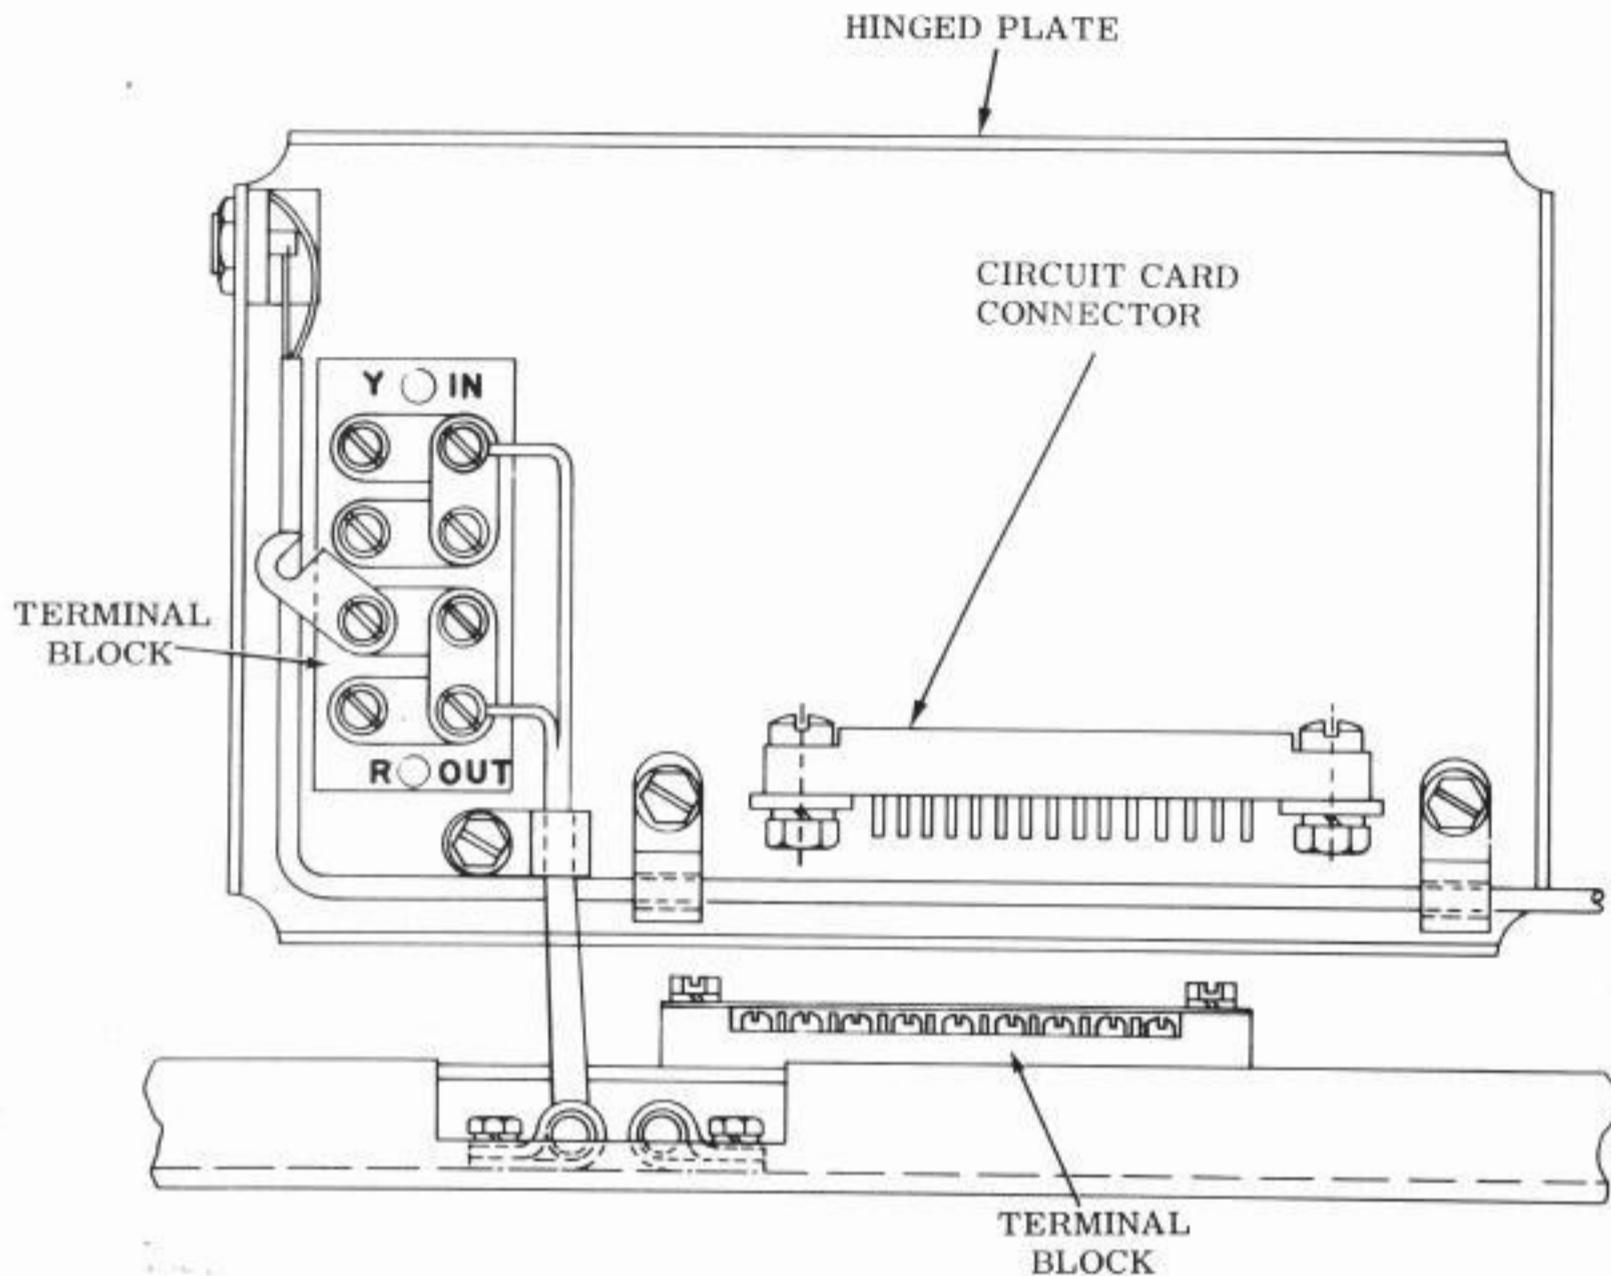

Figure 1 - Cable Routing
2.02 Connect the incoming signal line (R & Y) to Terminal 1 and 4 on the terminal board of the hinged plate at the rear of the base as shown in Figure 1 and 7126 WD. Secure the signal line to the base with a TP121243 Cable Clamp, TP151658 Screw, TP2191 Lockwasher, and TP7002 Washer. Remove the shunt by loosening the strap mounting screw on the terminal block and rotating the shunt out of connection with its screw.
2.06 Route the cable from the electrical service assembly to the tape printer base. Remove the cover from the terminal block at the rear of tape printer base (Fig. 1). Connect the blue wire to Terminal No. 8, and the slate